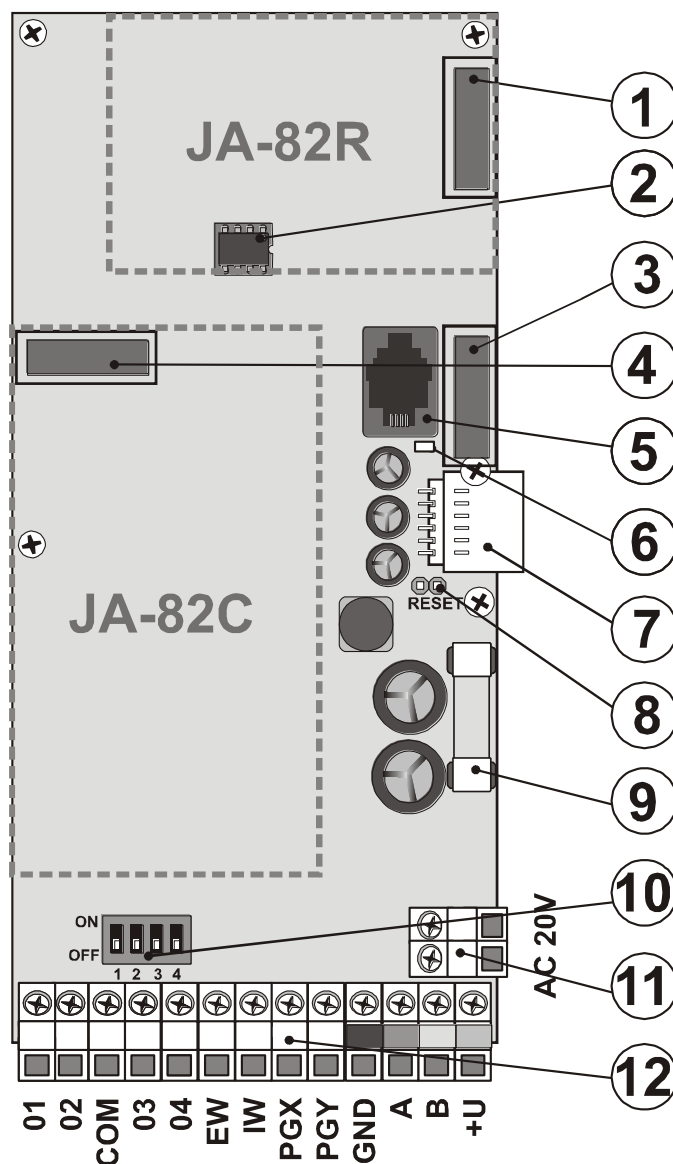

fig. 1 Control panel main board
The JA-82R radio module is installed in position 1 (see fig. 1). The antenna is included in the JA-82R package and it should be screwed on a plastic post (see fig. 17, pos 5). The antenna connector connects to the pins on the JA-82R module. The module installation enables the system to enroll up to 50 wireless devices.